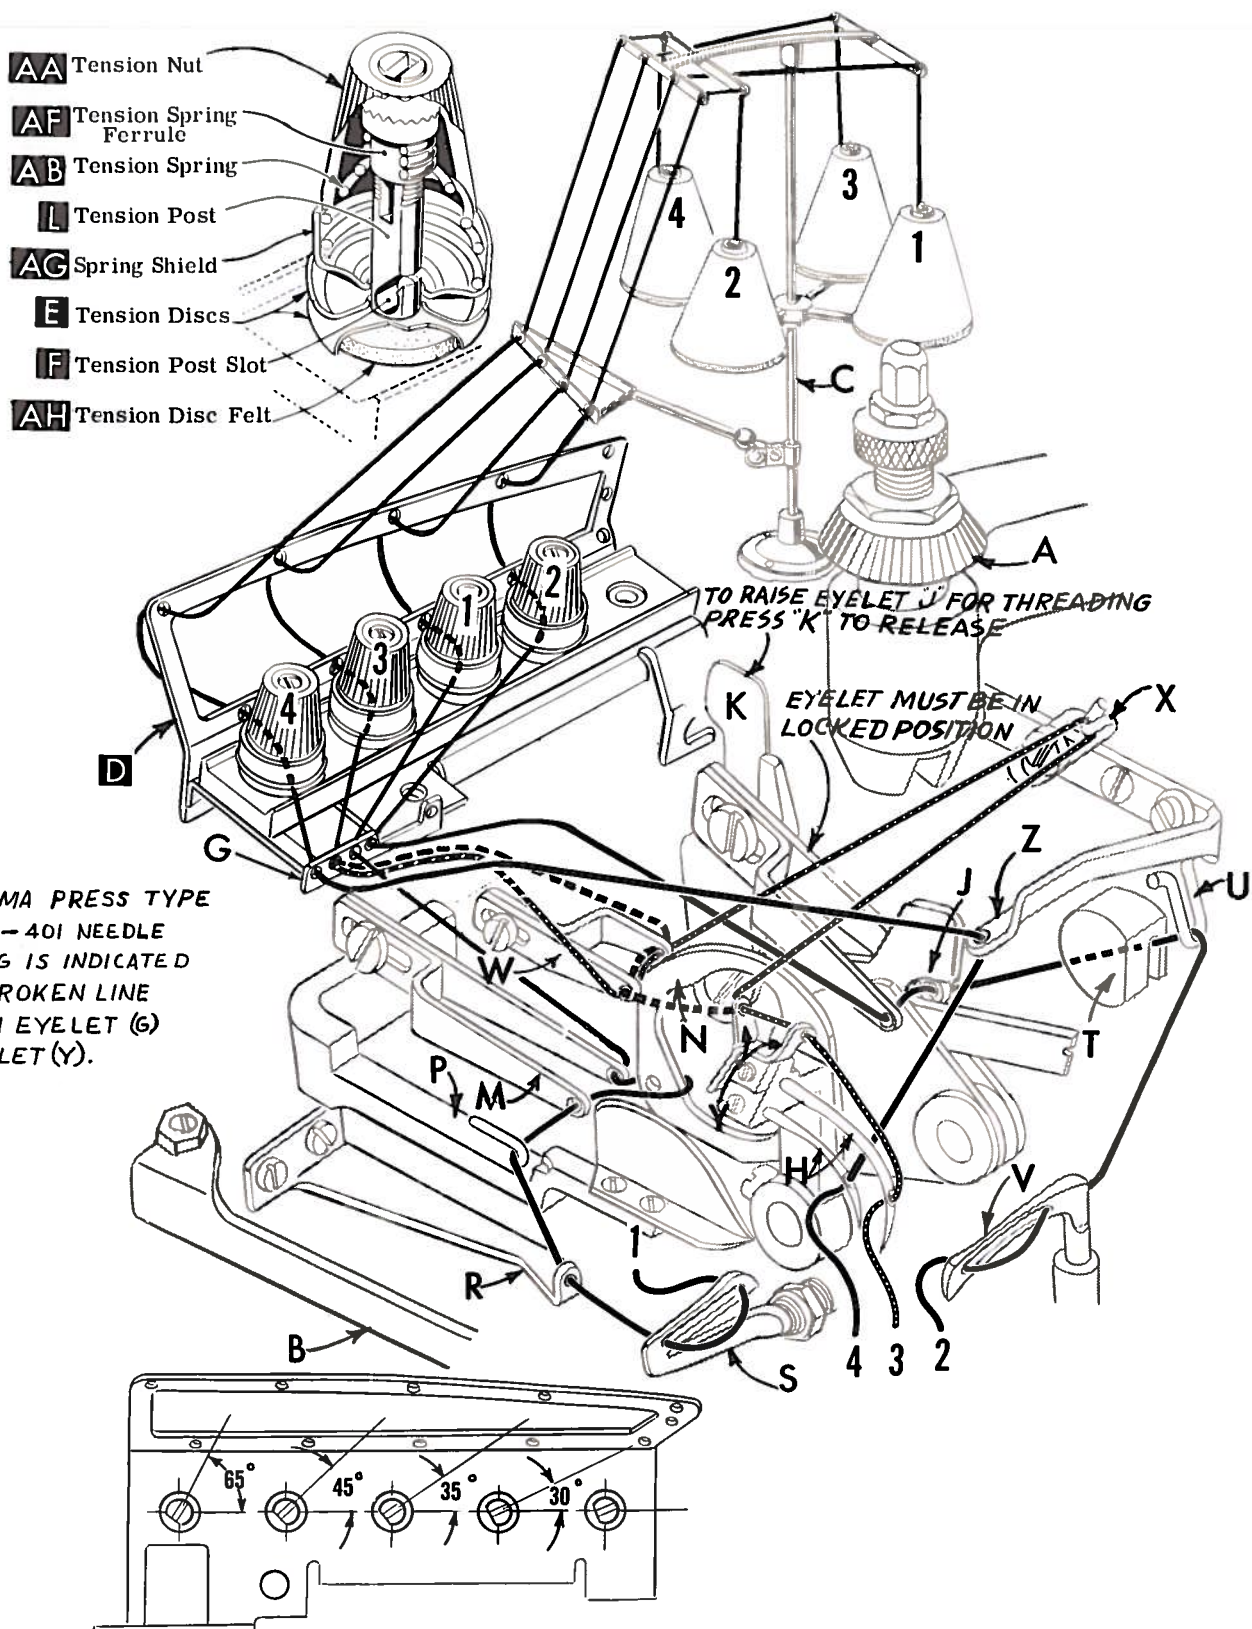

Fig. 1
Release pressure on presser foot by turning the presser foot release bushing (A, Fig. 1) and swinging presser arm (B) out of position. Turn handwheel in operating direction (away from operator) until needle holding screws are just exposed from behind presser spring plunger and accessible to screw driver. Loosen screws and withdraw needles. When replacing needles observe the position of the flat which is at the left of the shank and be sure the needles are inserted the full depth to the combination eyelet and stop plate.
Only parts involved in threading are shown in threading diagram (Fig. 1). Parts are placed in their relative positions for clarity.
The amount of tension on the needle and looper threads is regulated by the knurled tension nuts (AA, Fig. 1). Tension on the threads should be only enough to secure proper stitch formation. Using a postal scale, the measurements are taken with the needles at the top of their stroke and pulled in the direction as indicated. As a start the tensions may be as follows: